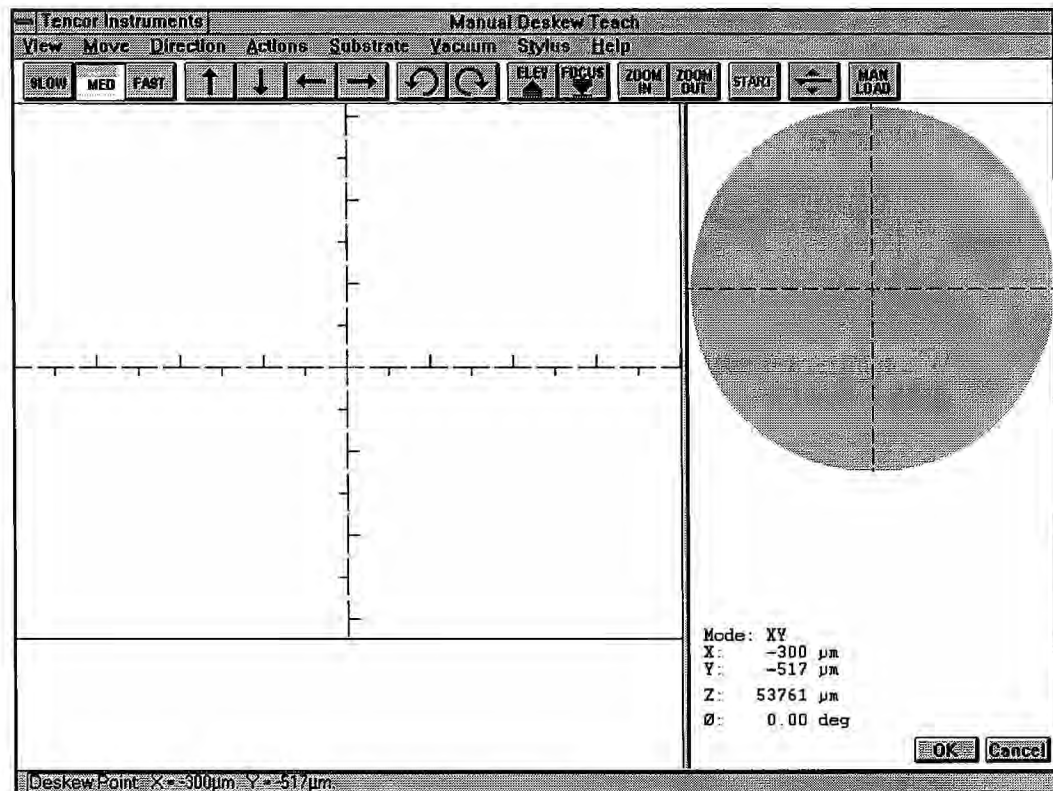

Figure 8-14 Manual Deskew Teach Window
5. Click on the Teach control button, or double-click on the selected sequence step. The Manual Deskew Teach window appears (Fig. 8-14).